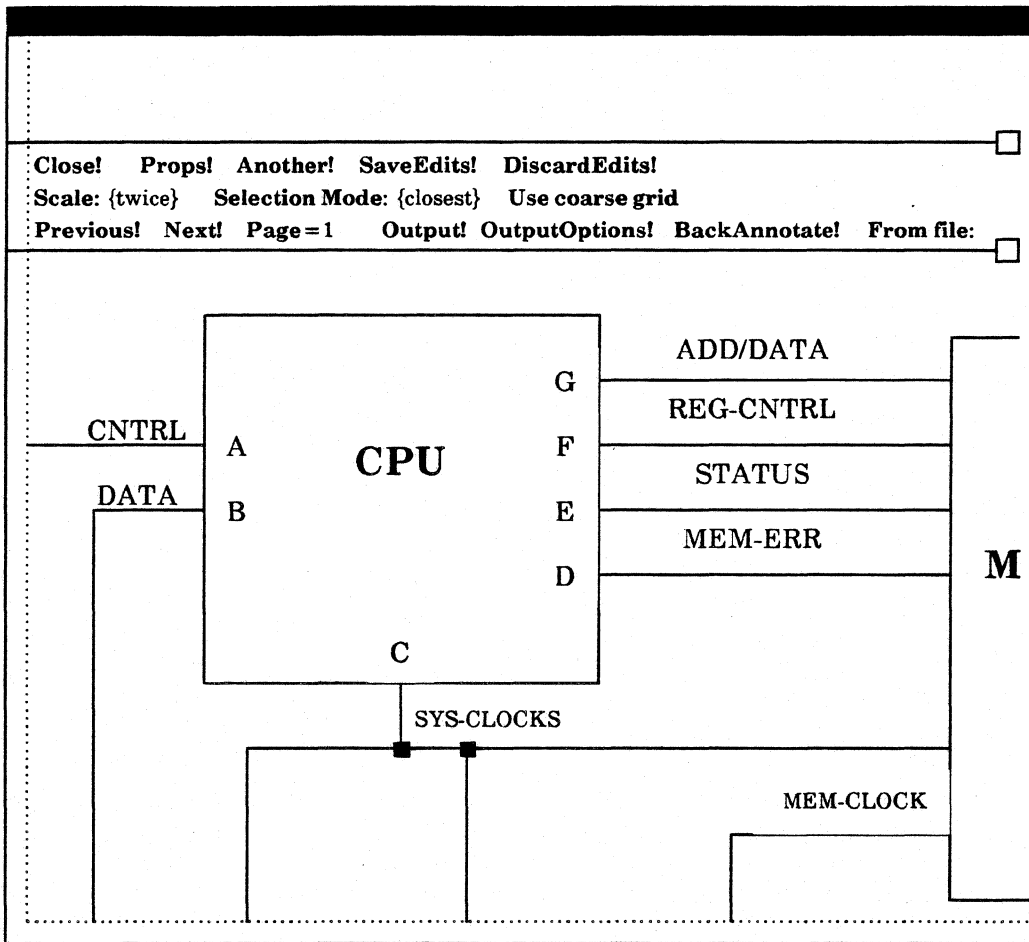
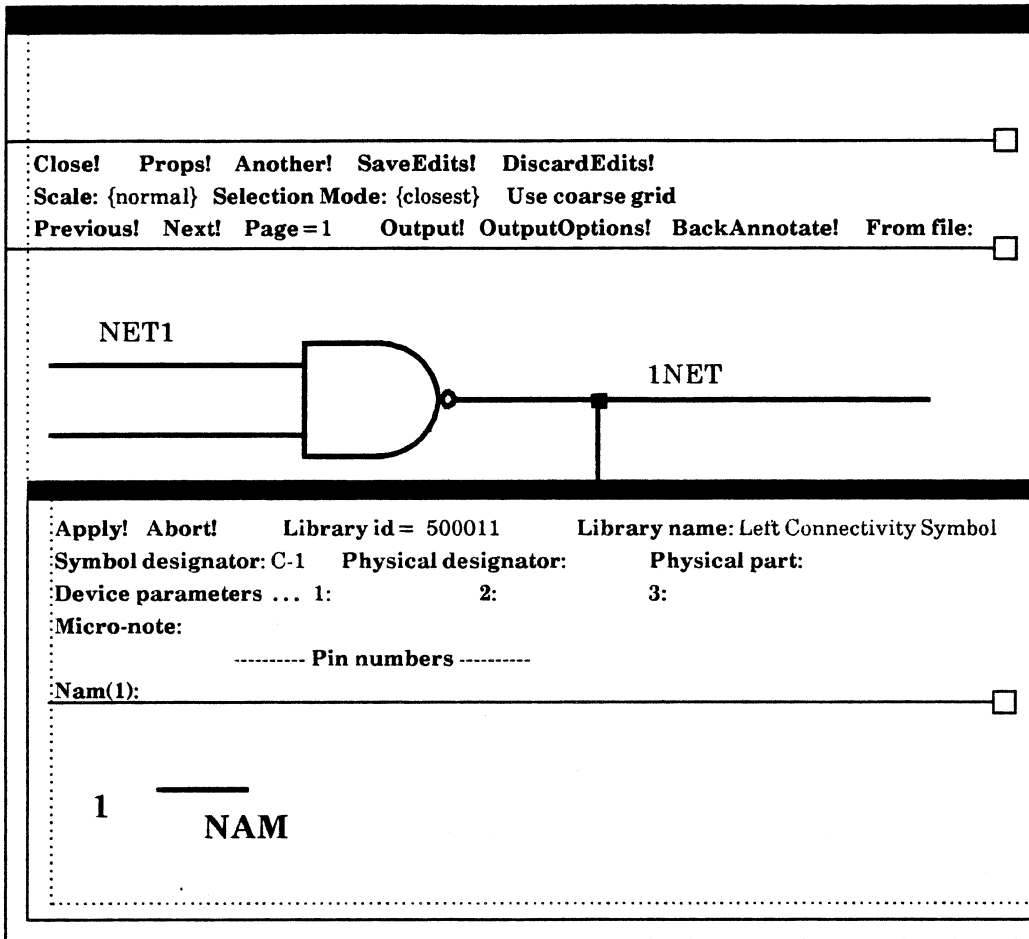

Figure 2.43
Figure 2.44
- 1) Use connectivity symbols to represent the pins of the symbol you are defining. If you are defining the signals in the bus that connects to the pin, use a connectivity symbol for each signal in the bus. Enter the pin name, a dash, and then the signal's number within the bus as the connectivity symbol's symbol designator. For example, figures 2.43 and 2.44 show the **CPU** symbol shown in figure 2.44, and the property sheet for a connectivity symbol representing the pin named "C"; it represents signal one in the **SYS-CLOCKS** bus that connects that pin to the **I/O** and **CLOCK** symbols.